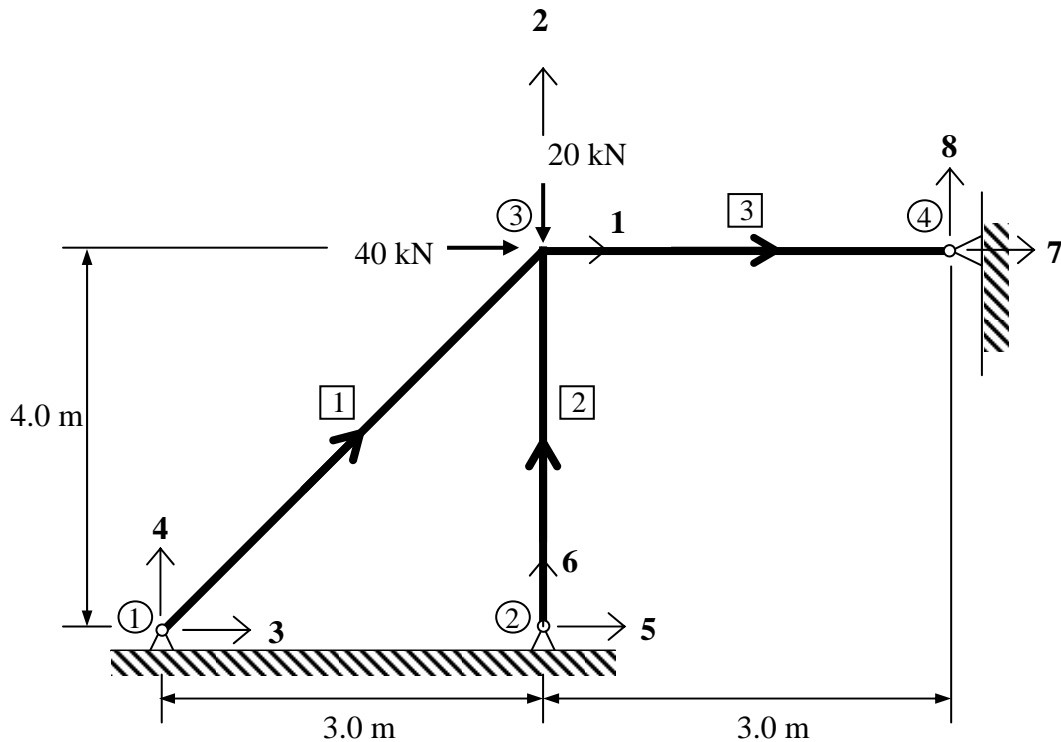

Figure 1
2. Figure 1 shows a truss supported by pin at node 1, 2 and 4. The truss is subjected to vertical and horizontal forces of 20kN and 40 kN, respectively. AE of all members are 15000 kN. Use stiffness method to solve the following question.
All solutions should be based on member, node and degree of freedom as labeled in Figure 1.